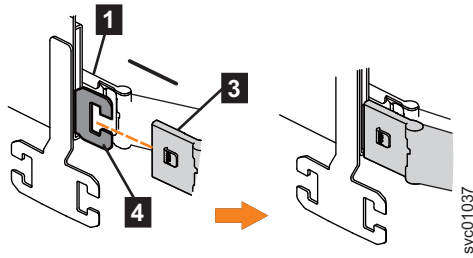

Figure 55. Install the inner connector of the upper CMA to the inner member of the support rail
3. Install the inner connector of the upper CMA assembly (**3**) to the inner member of the left support rail (**4**), as shown in Figure 55 on page 61.